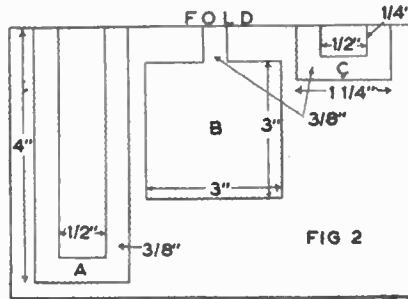

FIG 2
If you will now refer to Fig. 2 you will see details for the preparation of this puzzle. Take a piece of paper measuring about 8ins. by 10ins. folding down the centre. All the parts are measured from the fold thus making it quite easy to prepare the slotted pieces. You will then have the horizontal panel (A), the box (B) and the small square (C). It may be mentioned that piece (C) can be replaced by a small ring providing it is large enough to pass over the sides of the panel (A), but must not be so large that piece (B) will be too easily removed.
After marking out as in Fig. 2 it is then a simple matter to cut out the pieces with a sharp knife or a pair of scissors and we are ready for assembling the puzzle.